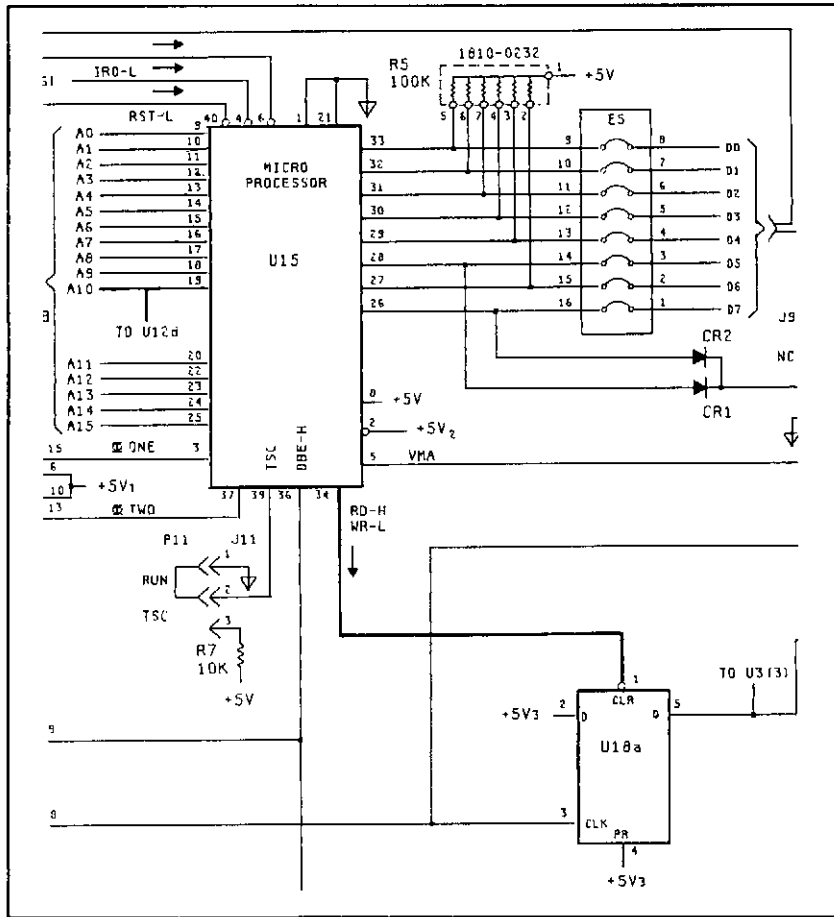

Figure 7-1. Change #1 on Schematic 9
a. Page 8-83/8-84, Figure 8-70 (Schematic 9, Main Controller Schematic). Delete inverters A4U16b and U16c, as shown in Figure 7-1. Since part of U16 is also used in other circuits, only delete U16b and U16c.